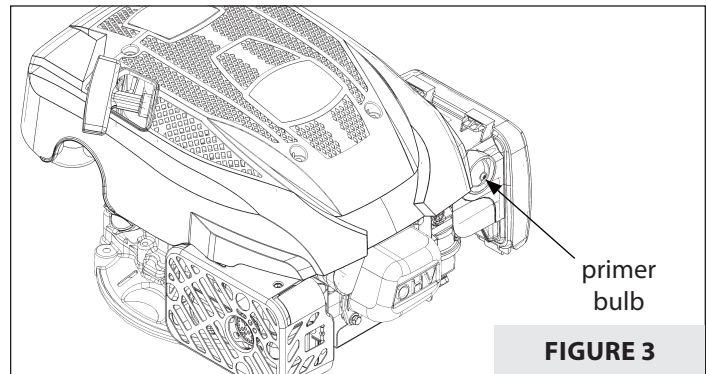

FIGURE 3
2. Press primer bulb three times. Let bulb fully recover between each depression. **SEE FIGURE 3.**